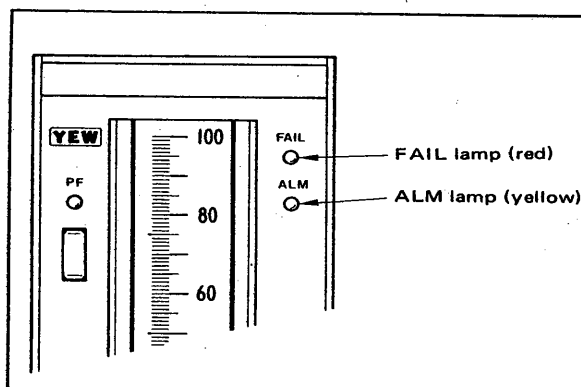

Figure 5-3-3. FAIL and ALM Lamps.
**(1) Alarm checking (See Figure 5-3-3.)**